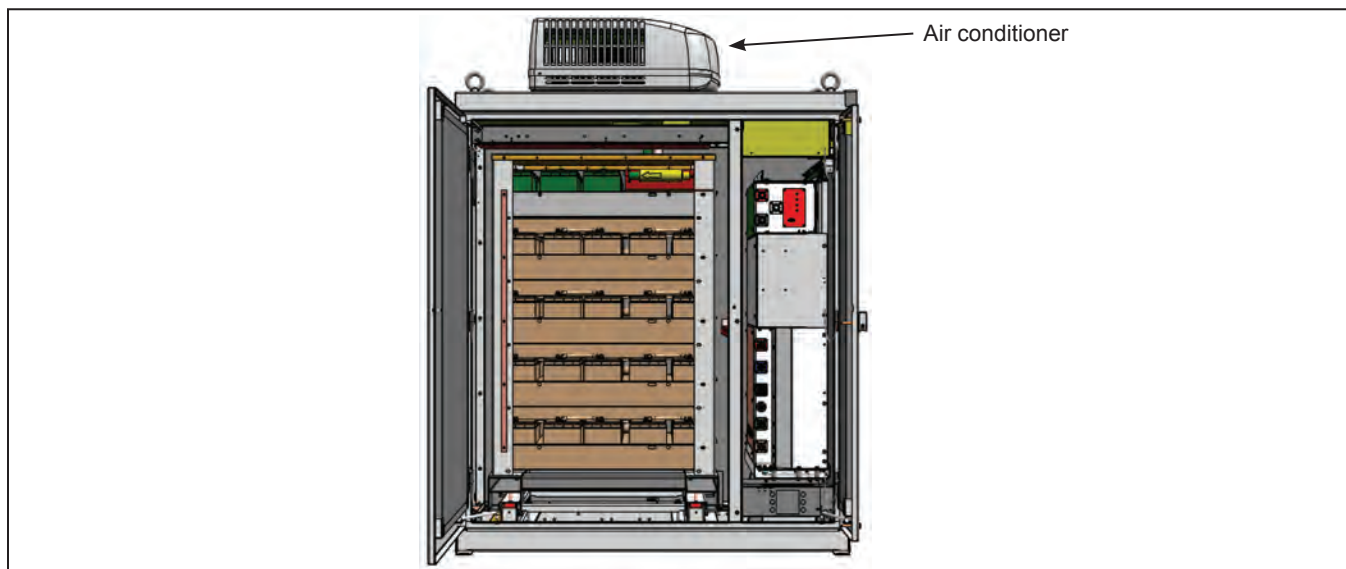

Figure 24. Location of an air conditioner on top of the battery bay.
- ☐ Inspect the air conditioners at the top of the battery bay. Clean any debris or obstructions that can restrict air flow. See Figure 24 for the location of the air conditioners.